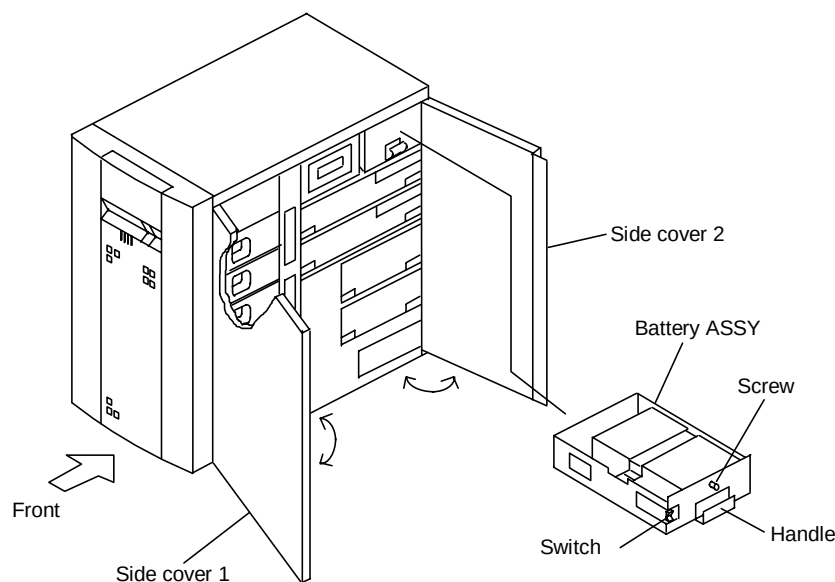

Figure 6.1 Replacing Battery ASSY
6. Replacing Battery ASSY (See Figure 6.1.)